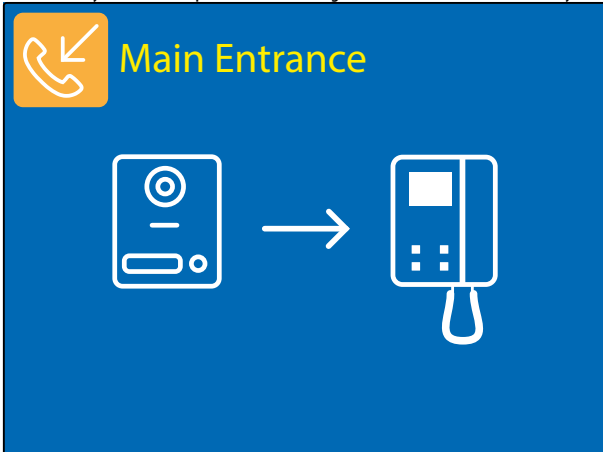

Fig. 28 Incoming call initialising the video
- On an incoming call the videophone rings and the display shows the initialising screen (Fig. 28) first then shows the video coming from the door panel (Fig. 29).